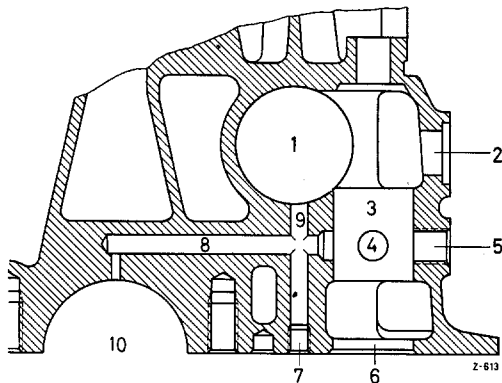

Figure 18-1/2
The oil relief valve (8) attached to the oil filter will open the inflow to the lubricating points of the engine, even if the resistance of the oil filter is higher than normal for some reason, e.g. during starting when the oil is still cold and viscous, or if the oil filter is clogged due to insufficient maintenance (Figure 18-1/3).
The oil relief valve (5) installed in the main oilway prevents the surpassing of a certain maximum oil pressure (see Figure 18-1/3).